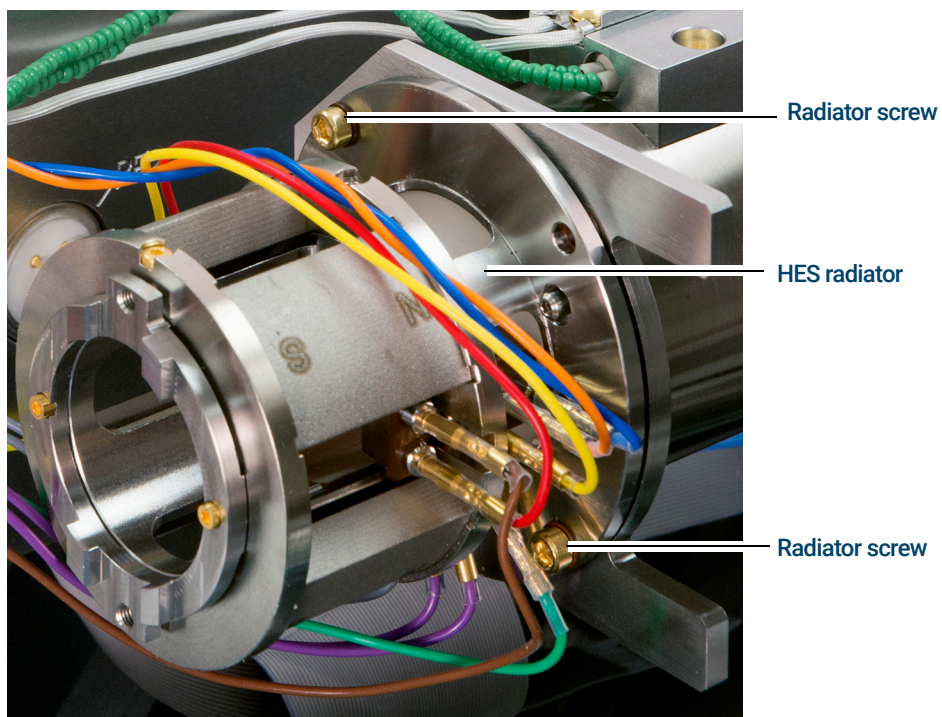

Figure 68. Removing the EI HES radiator
- 5 Use a T10 Torx screwdriver to loosen the two screws that secure the radiator to the analyzer and place the radiator in its storage container. (See **Figure 68** on page 209.)